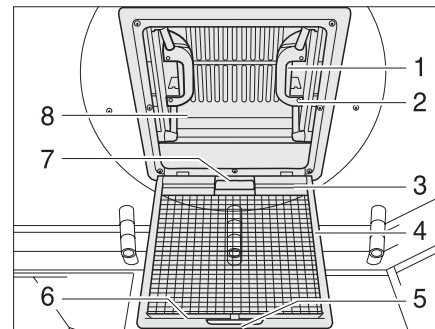

Fig. 54 Skylight with snap latch
- ▶ Pull the handle (Fig. 54,5).
- ▶ Fold the insect screen (Fig. 54,4) downwards.
- ▶ Push the spring-loaded latch (Fig. 54,1) towards the inside of the skylight (Fig. 54,8).
- ▶ At the same time use the handle (Fig. 54,2) to press the skylight upwards.
- ▶ Swing the insect screen upwards (Fig. 54,4) until it latches in place.
- Using both handles (Fig. 54,2), pull down the skylight (Fig. 54,8) with force until the two snap latches (Fig. 54,1) lock into place.
- Swing the insect screen upwards (Fig. 54,4) until it latches in place.
- Pull the handle (Fig. 54,7) of the blind and hook the hook rail (Fig. 54,3) into the retainer (Fig. 54,6) on the insect screen.
- Release the hook rail (Fig. 54,3) from the retainer (Fig. 54,6) and feed the blind back slowly.